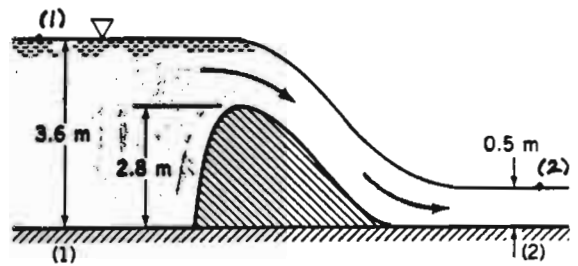

FIGURE P3.107
**3.107** Water flows over the spillway shown in Fig. P3.107. If the velocity is uniform at sections (1) and (2) and viscous effects are negligible, determine the flowrate per unit width of the spillway.